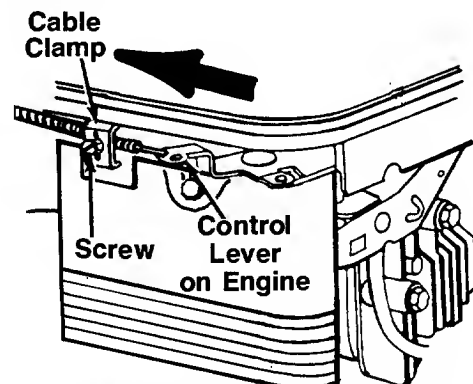

FIGURE 20.—Models 414R, 416R, 418R, 424R, 426R and 428R
1. Remove the screw shown in figure 20. Remove the cable clamp from the cable.